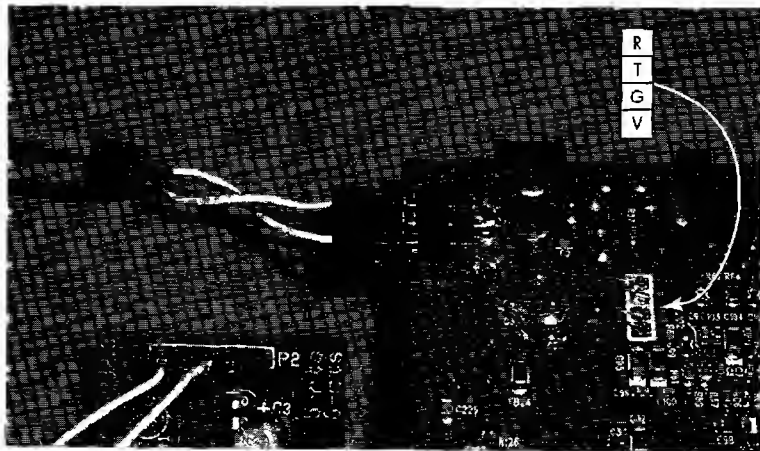

Figure 20-2: The clandestine console port location (bottom view)
1. When examining the board for I/O ports, you will find a four-pin port that is used as a console port. Solder a four-pin header to the bottom of the board and connect the header to the port with individual wires, as shown in Figure 20-2.